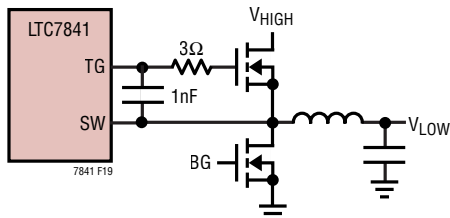

Figure 18. Filter for TG Traces > 25mm
2. The TG traces from the controller IC to the gate of the external MOSFET should be kept as short as possible to minimize the parasitic inductance. This inductance can cause voltage spikes that can potentially exceed the ABS Max rating of the drivers and damage them. A 3 $\Omega$  resistor and 1nF capacitor can be used to filter these spikes as shown in Figure 18. If the TG traces are longer than 25mm, this filter network must be used on both TG1 and TG2. The 1nF capacitor should be placed as close to the TG/SW pins as possible.